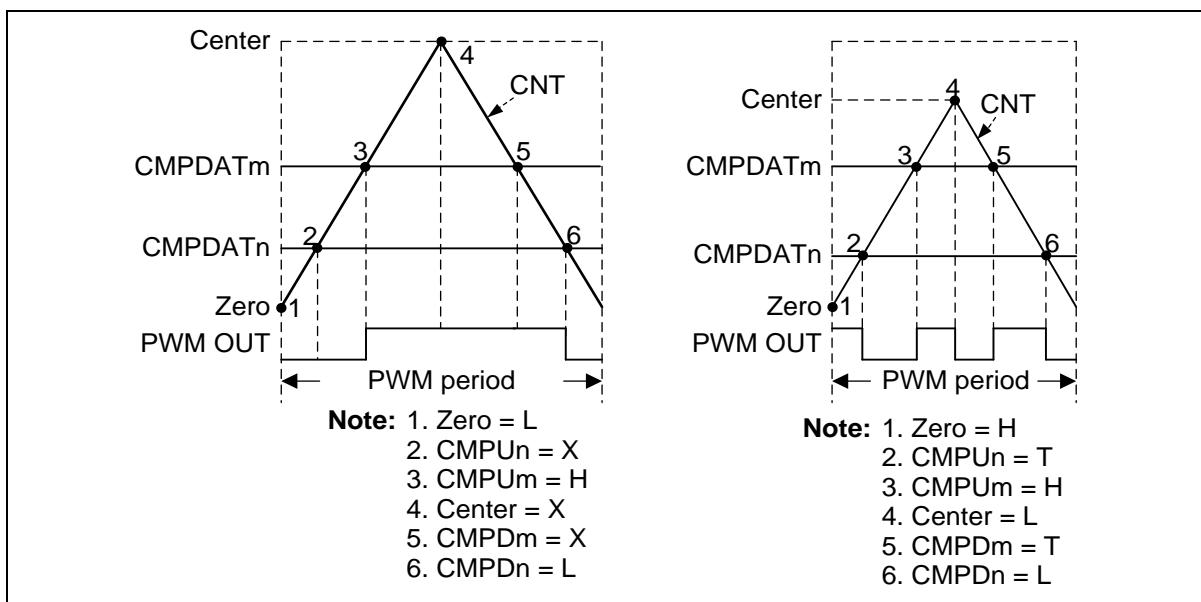

Figure 6.12-16 PWM Pulse Generation
Each event point can decide PWM waveform to do nothing (X), set Low (L), set High (H) or toggle (T) by setting the PWM_WGCTL0 and PWM_WGCTL1 registers. Using these points can easily generate asymmetric PWM pulse or variant waveform as shown in Figure 6.12-16. In the figure, PWM is in complementary mode, there are two comparators n and m to generate PWM pulse. n denotes even channel number 0, 2, or 4, and m denotes odd channel number 1, 3, or 5. n channel and m channel are complementary paired. Complementary mode uses two channels (CH0 and CH1, CH2 and CH3, or CH4 and CH5) as a pair of PWM outputs to generate complement paired waveforms. CMPU denotes CNT(PWM_CNTn[15:0]) is equal to CMP(PWM_CMPDATn[15:0]) when counting up. CMPD denotes CNT bits is equal to CMP bits when counting down.